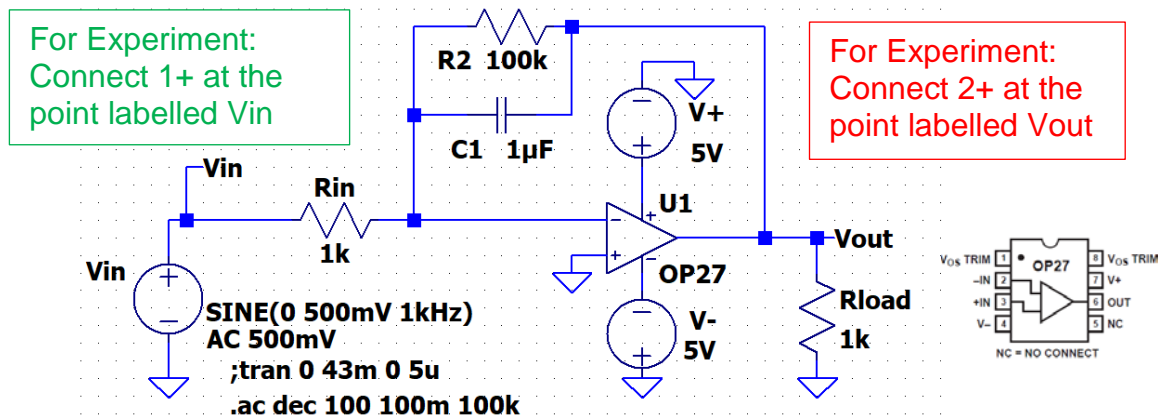

Figure C-3.
- In LTspice simulate the integration circuit shown below in Figure C-3. V1 should have a 200mV amplitude and 1kHz frequency.
- On your proto-board, build the op-amp integrator circuit as shown in Figure C-3 using the OP27 amplifier. Note that this circuit may not work with a uA741 op amp, R2 may need to be changed to a lower value.
- Obtain measurements of the input and output voltages at frequencies of 100Hz, 1kHz, and 5kHz. Add your experimental points for both the amplitude and phase to your *LTspice* AC analysis plot done for Figure C-3 simulation.